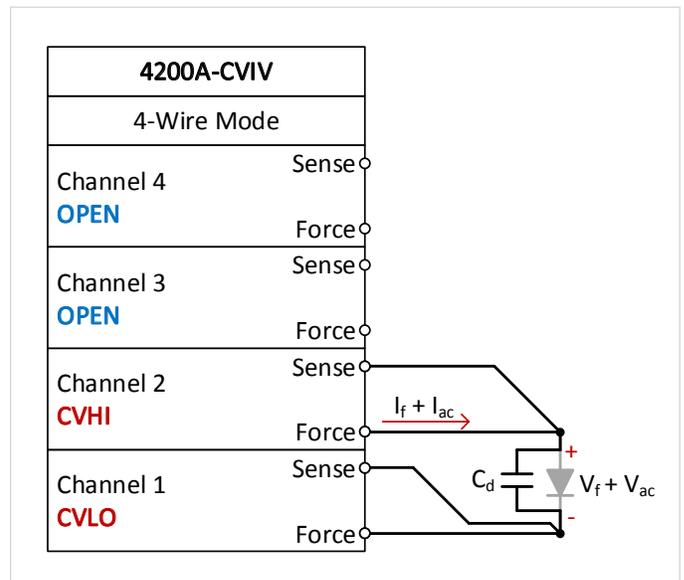

Figure 7. Configuration for C-V characterization of a diode using the 4200A-CVIV.
**Figure 7** shows the device connections and 4200A-CVIV settings for a C-V test on a diode. All of the connections are identical to the I-V test. When the *cviv-configure* Action is executed in the Clarius software, the output is switched from the SMUs to the CVU terminals.